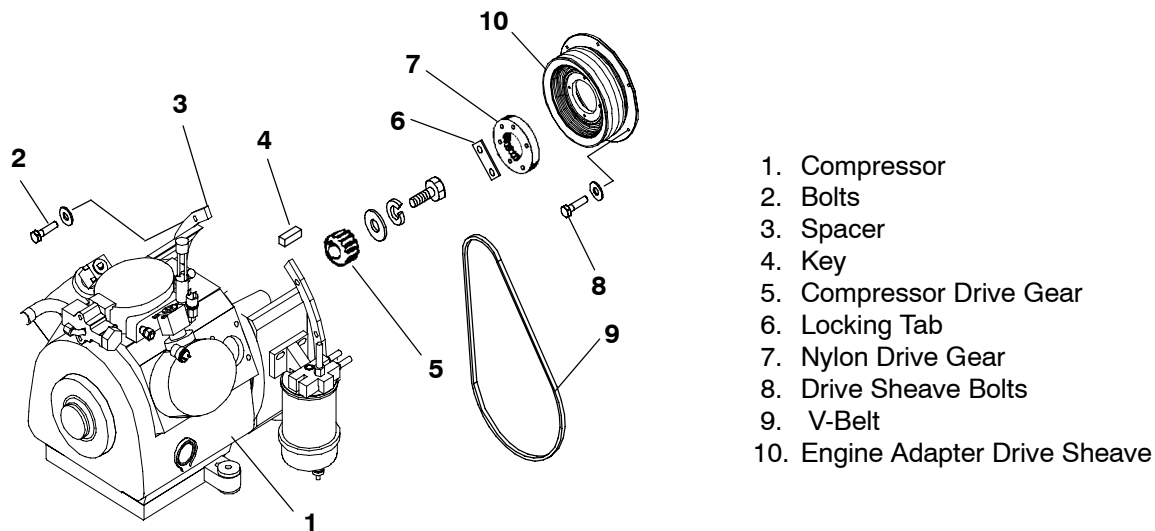

Figure 8-15. Compressor Drive Assembly
- k. Slide compressor enough to clear nylon drive gear, Figure 8-15, and remove compressor from unit.